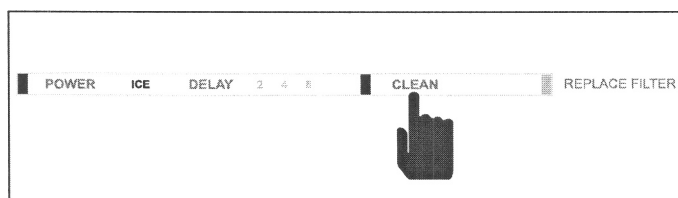

Figure 4-2. Start Clean Cycle, Press "CLEAN"
2. Press CLEAN button (See Figure 4-2). The ice machine will initiate a 2 minute harvest to remove any remaining ice from the evaporator. When that ice falls in the bin, remove it from the bin.